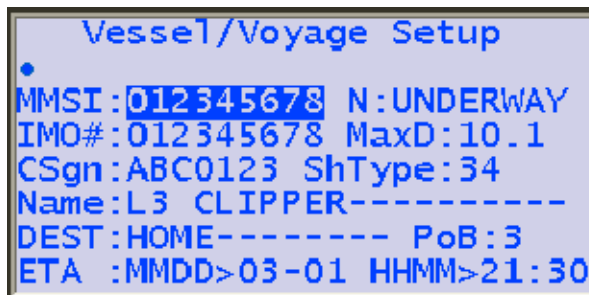

Figure 2-7. Vessel/Voyage Setup Screen
The Vessel/Voyage Setup screen (Figure 2-7) allows the user to enter the following information, which is required to be completed during the installation of the AIS.
- (2) Use DOWN ARROW key to scroll down to Vessel Voyage Setup. Press ENT.
Use the following instructions to enter data for Steps (3) through (9). (Refer to Figure 2-7.)